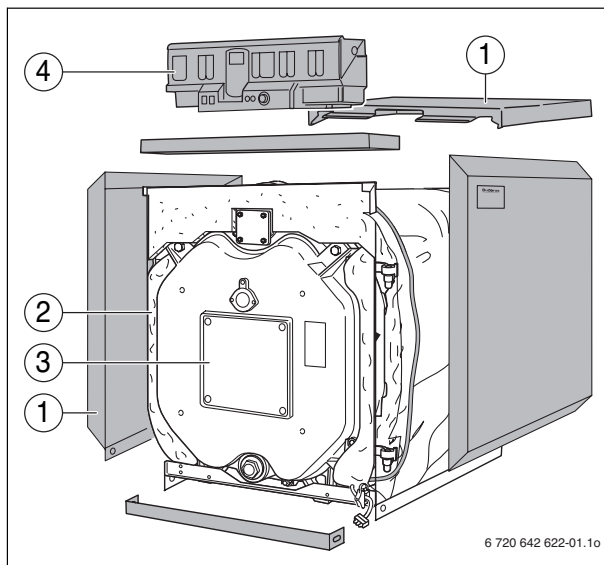

Fig. 1 Oil/gas fired boiler Logano G315
- Boiler block (→ Fig. 1, [3])
- Boiler shell (jacket → Fig. 1 and 2, [1]), thermal insulation (→ Fig. 1, [2]).
- Control panel (→ Fig. 1, [4])